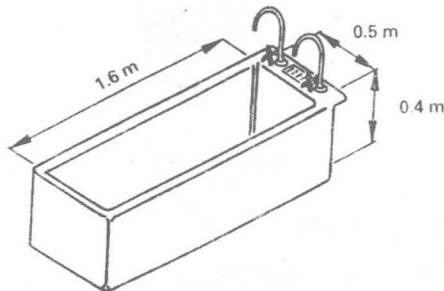

Figure 1.4 A bathtub can hold a certain volume of water
The volume of a body is the amount of space which it occupies. Since the unit of length in the S.I. system is the metre (m), the unit of volume is the cubic metre (m^3) (see Figure 1.4). However, for many practical purposes this unit is too large and inconvenient and so subdivisions such as cubic centimetres (cm^3) or cubic millimetres (mm^3) are sometimes used. Another common unit of volume is the litre (L). Such units are not strictly S.I. units but are nevertheless in common use. The following conversion factors are often useful: